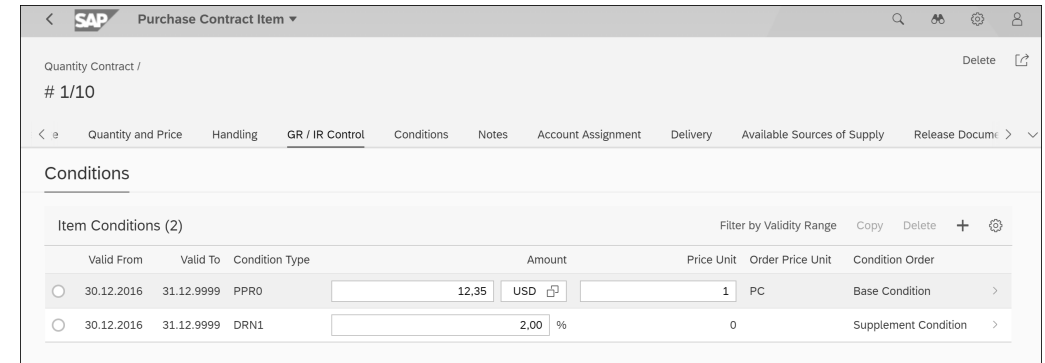

Figure 8.7 Create Contract Item: Conditions
9. Go to the **Conditions** tab and add (+) conditions, as shown in Figure 8.7.